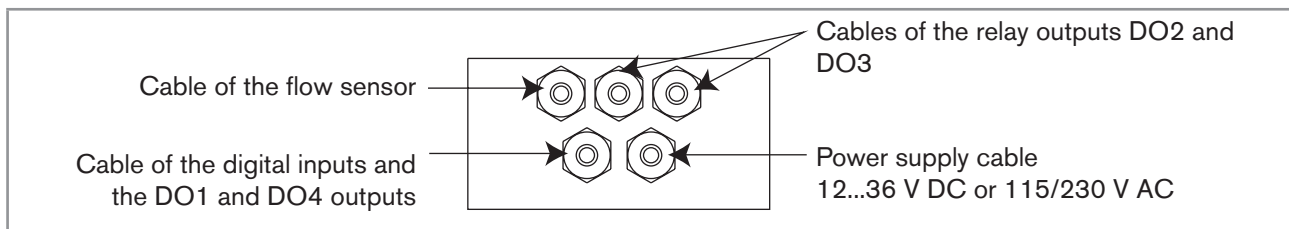

Fig. 31 : Using the cable glands on a wall-mounted version
- Insert each cable through a nut than through the cable gland, using the cable glands as shown in Fig. 31.